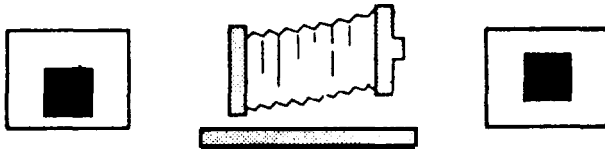

Figure 4-27.—Using rising and falling front-to-center image vertically.
4. Rising and falling front. The rising and falling front is used to center the image vertically on the ground glass (fig. 4-27). This control raises and lowers the lens board. This prevents you from tilting the entire camera and nullifying the distortion corrections made on the vertical plane.